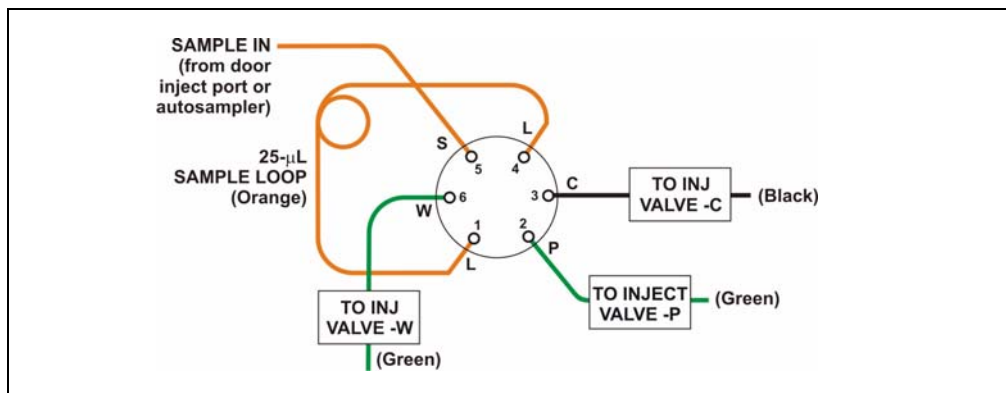

Figure 3-9. Injection Valve Connections
1. Make sure the injection port on the ICS-1000 front door (see Figure 2-1) is connected to the sample port **S** (5) on the injection valve (see Figure 3-9).
1. Disconnect the waste line from port **W** (6) of the injection valve (see Figure 3-9) and attach a shorter line: 25 to 30 cm (10 to 12 inches) of PEEK or Teflon® tubing.